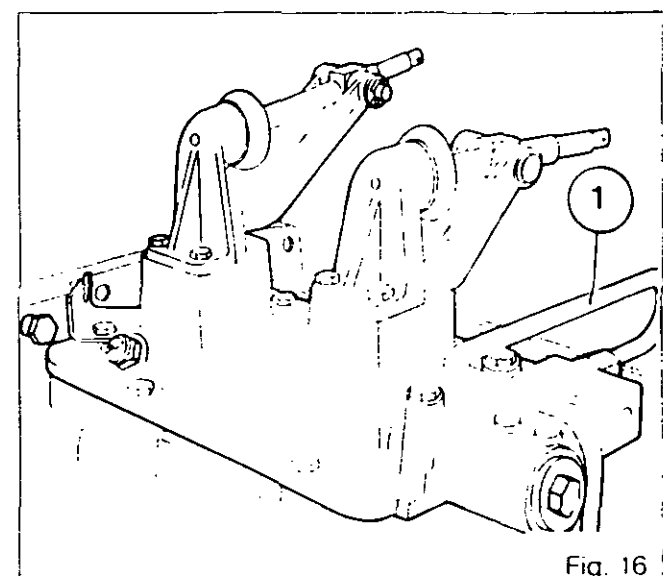

Fig. 16
29. Disconnect the pressure gauge and fit the supply pipe (1) for the A/B ranges (Fig. 16)